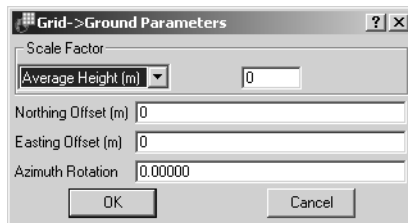

Figure 3-33. Grid->Ground Parameters Dialog Box
3. On the *Grid->Ground Parameters* dialog box, enter the transformation parameters (Figure 3-33).